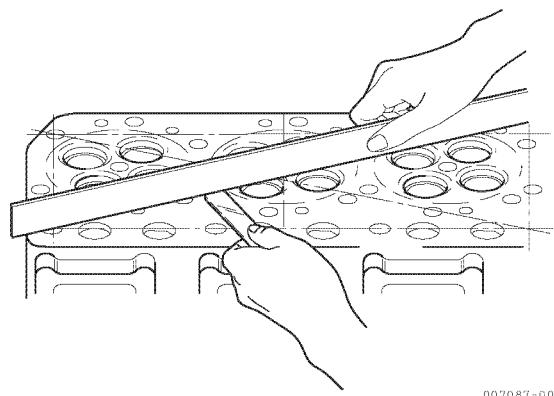

Figure 5-63
- Place a straight-edge along each of the four sides and each diagonal. Measure the clearance between the straight-edge and combustion surface with a feeler gauge (**Figure 5-63**).